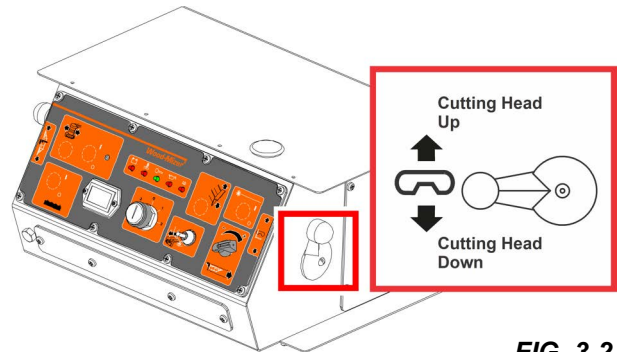

**FIG. 3-1**
2. Release the fenders and lift up to remove the fenders. **See Fig. 3-1.**
7. Remove the fenders by lifting them out of the slots. **See Fig. 3-1.**